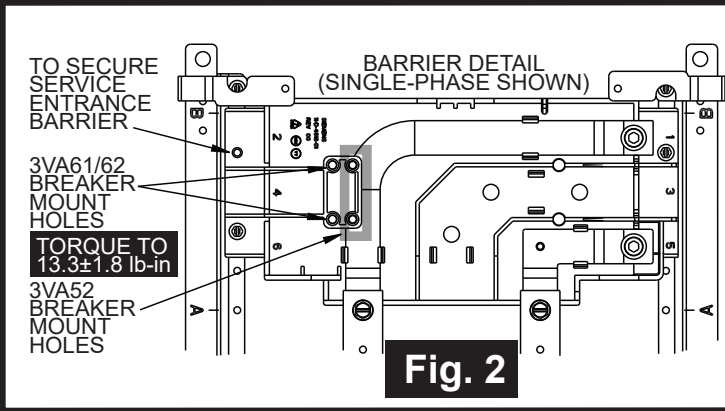

Fig. 2
The following instructions are for the installation of a Siemens main or subfeed breaker kit for Type **3VA52 (MFAS, HFAS or CFAS)**, Type **3VA61 (MDAE, HDAE or CDAE)** or Type **3VA62 (MFAE, HFAE or CFAE)** breakers in Revised P1 Panelboards. The kit may be installed as a main or a subfeed in panels rated 250 amps or less. For Revised P1 400A panels, it may be installed in subfeed applications **ONLY** (see Fig. 2). The parts provided enable connection to a 1-phase, 2 or 3-wire system with the use of kit **MBKVA5262A** or for connection to a 3-phase, 3 or 4-wire system with the use of kit **MBKVA5262B**. The breaker is **NOT** included with this kit and must be purchased separately. Be sure to choose the appropriate breaker for the system in use. For systems without neutrals, disregard the neutral connection instructions.
10. Orient the breaker such that the "ON"-side (with Bus Extensions) fits onto the barrier carefully aligned with the two fins and bus straps. The "OFF"-side breaker mount holes are aligned with the inner inserts for 3VA52 breakers and outer inserts for 3VA61/3VA62 breakers. Breaker terminals 1, 3 & 5 and 2, 4 & 6 should align with the numeric markings on the barrier (**See Fig. 2**)